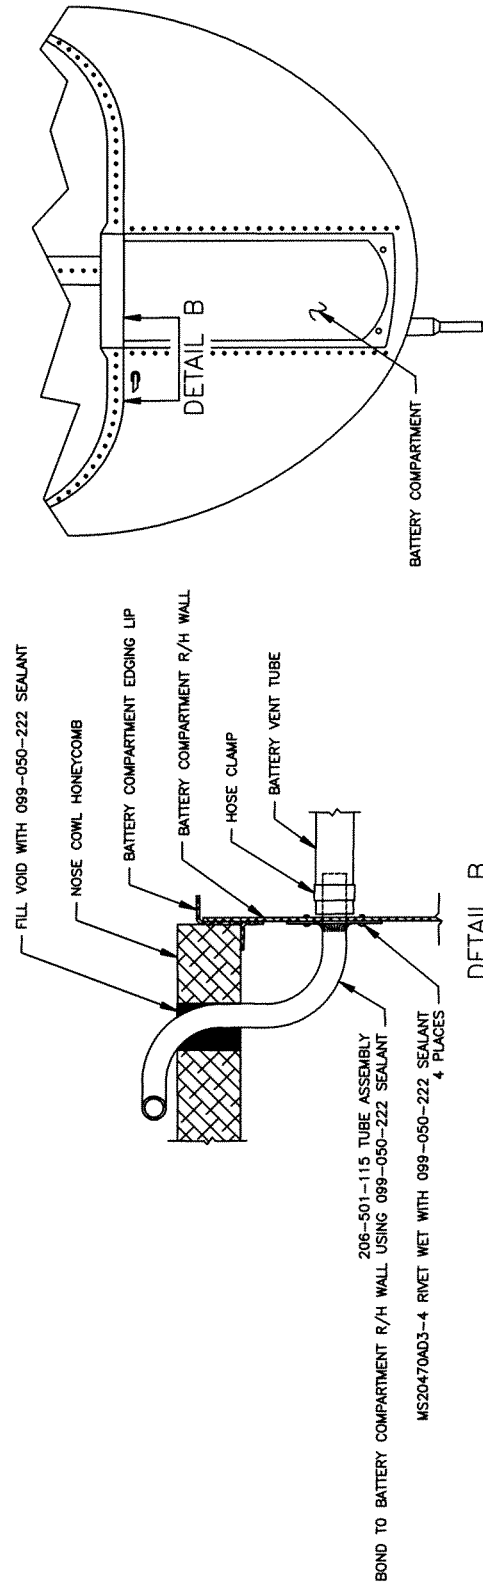

FIGURE 5
7. Apply 099-050-222 Sealant between the contacting surfaces of the 206-501-115 Tube Assembly and battery compartment right-hand wall. Install the Tube Assembly using MS20470AD3-4 Rivets wet with 099-050-222 Sealant. Seal the area where the Tube Assembly exits through the nose honeycomb with 099-050-222 Sealant. See Figure 5.